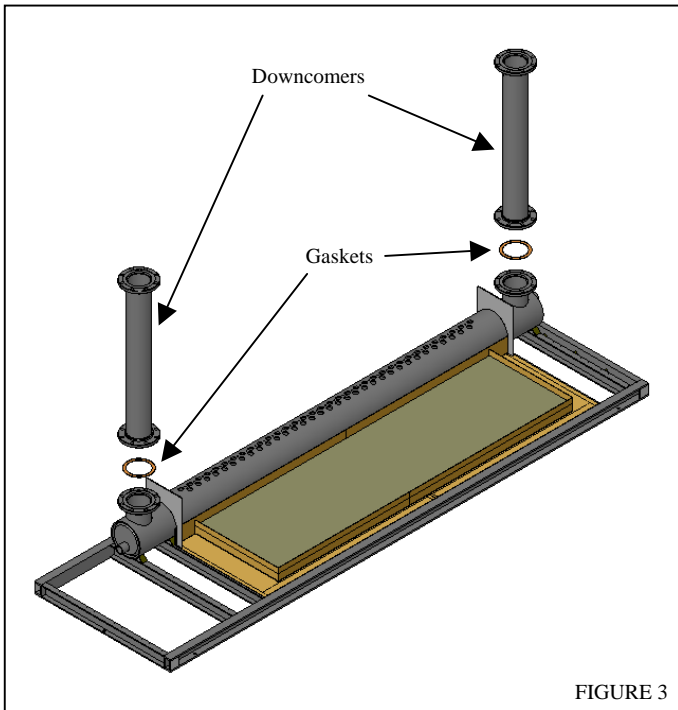

FIGURE 3
- 2.1 The downcomers are now ready to be attached to the lower rail. You will notice that the downcomers are color-coded. This is to help you with alignment and assures you that the downcomers are installed exactly the same way they were originally installed at the factory. Simply match the color code on the downcomer to the lower rail. **Make sure to use the flange gaskets between the flanges.** See figure 3.